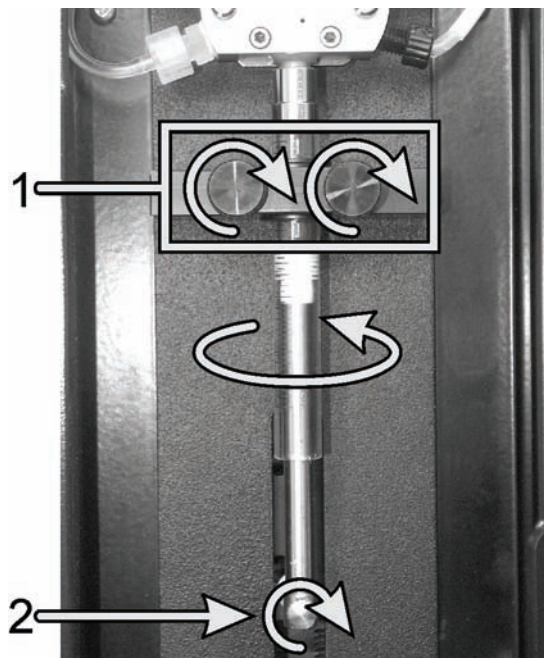

Figure 182: Replacing the syringe with clamp screws (1) and plunger screw (2)
6. Secure the glass tube to syringe valve by pushing the tube up while twisting it one full turn in the direction shown in Figure 182.
7. Tighten the two clamp screws to secure the tube (see Figure 182).
8. Secure the plunger to the pull-down arm using the thumbscrew (see Figure 182).